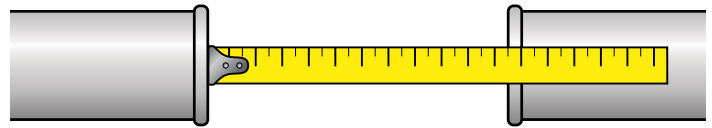

FIG. 25a
- Measure how long your shortened pipe section needs to be [FIG. 25a].